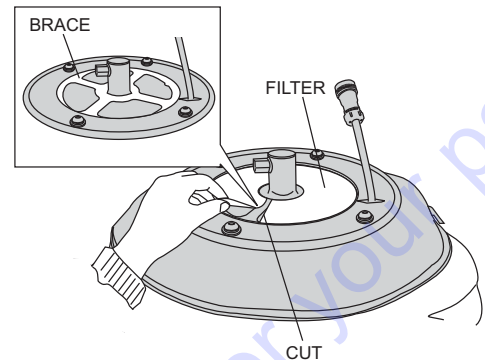

Figure 28. Filter Placement
5. Install a new filter over the brace as shown in Figure 28. Be sure to align the cut of the filter over the brace.